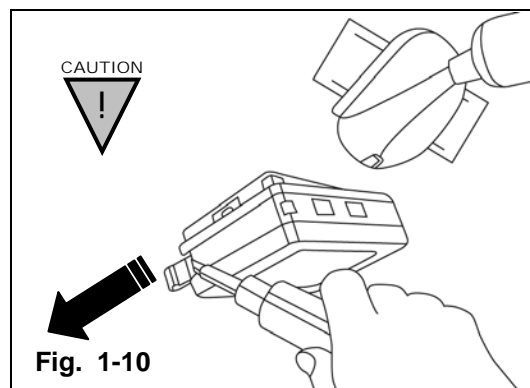

Fig. 1-10
- c) Using 4mm Screwdriver, slide the two (2) locking tabs downward on the rain-sensor. **(Fig. 1-10)**